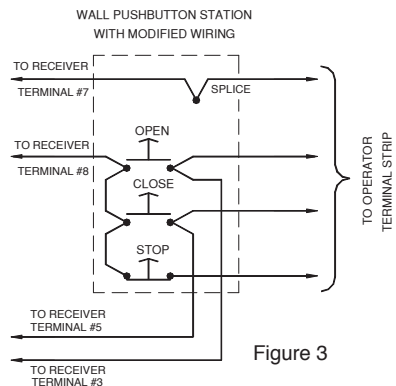
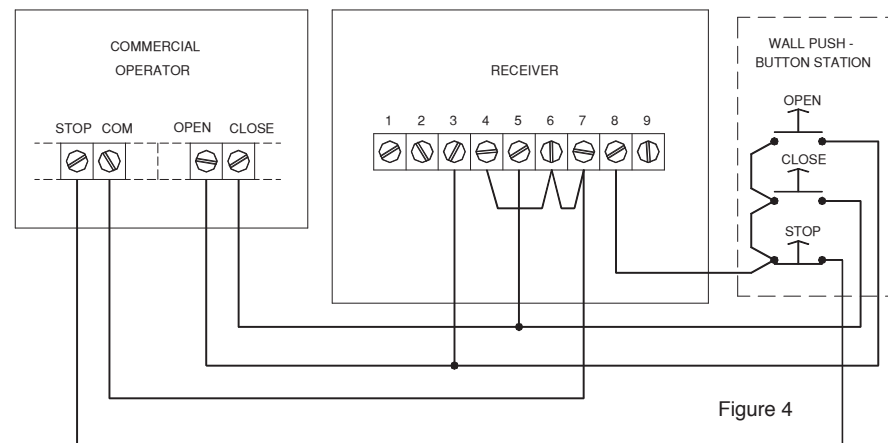

Figure 3
Figure 4
Check the wire & connections in the STOP circuit. Refer to Figure 4.
Typical 4-wire 3-button stations are wired as shown in Figure 3. Number 18 gauge wire or heavier must be used for wiring the control stations and the receiver to the door operator. Smaller gauge wire may cause operational problems, especially when multiple 3-button stations are used. For typical installations the receiver is mounted near the door operator, away from any high voltage conduits or steel support beams. For wiring, follow the steps below and refer to Figure 4.
3. Connect the following wires from the receiver to the operator 3-button COMMON (as shown in Figure 4):